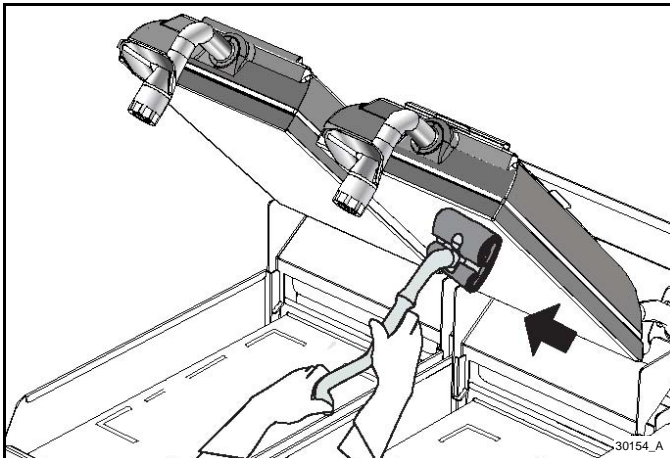

Figure-151
21. Using the Kay® grill cleaning pad holder, distribute the grill cleaner around the upper platens to ensure full coverage. See Figure-151.